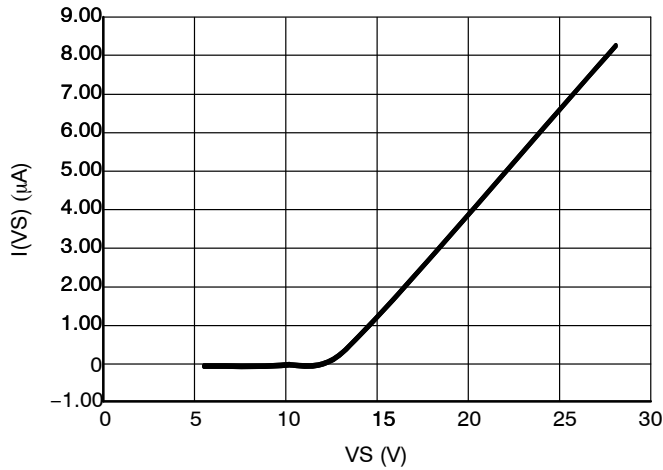

Figure 12.  $I(VS)$  Standby Current vs.  $VS$  at 25°C
- Refer to Figures 12 and 17 for the VS standby current behavior.